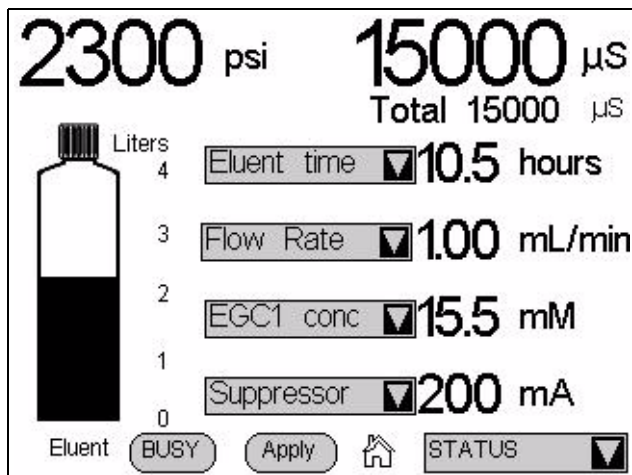

Figure B-11. Status Page Setup
1. Touch the **Setup** button. A drop-down list replaces the label for each field, and the **Setup** button changes to **Apply** (see Figure B-11).